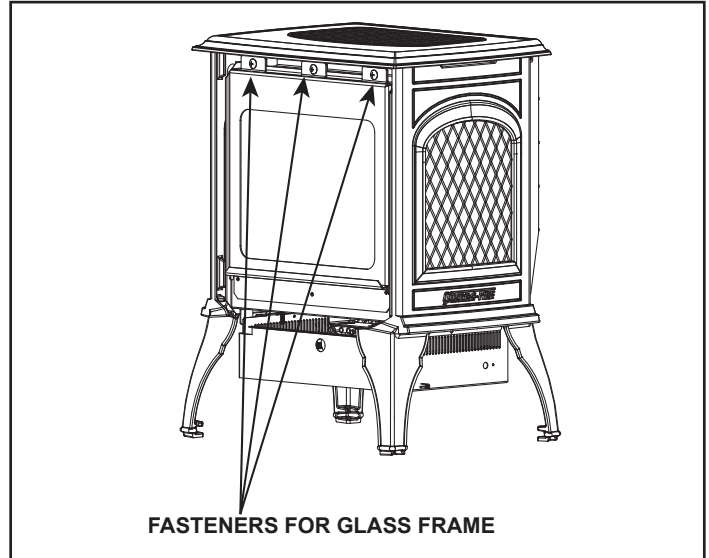

Figure 10.2 - Remove Glass Frame
4. Using a Phillips screwdriver, remove the three screws on the front glass assembly and take the glass off the appliance. See Figure 10.2.